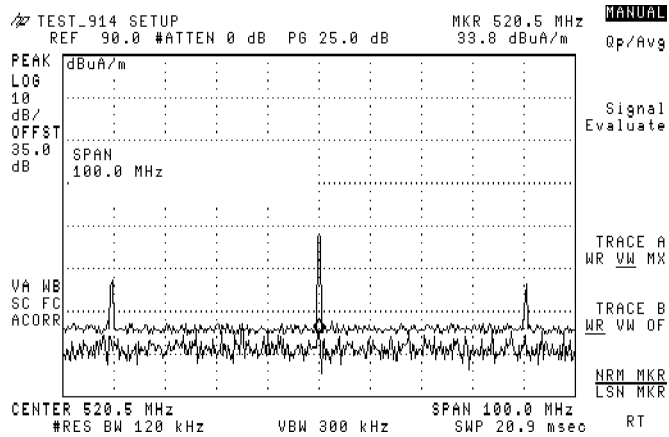

Figure 3-5. Saving the Displayed Response in View Mode
18. Press **TRACE A WR VW MX** once again (VW will be underlined) to save the displayed response. See Figure 3-5.